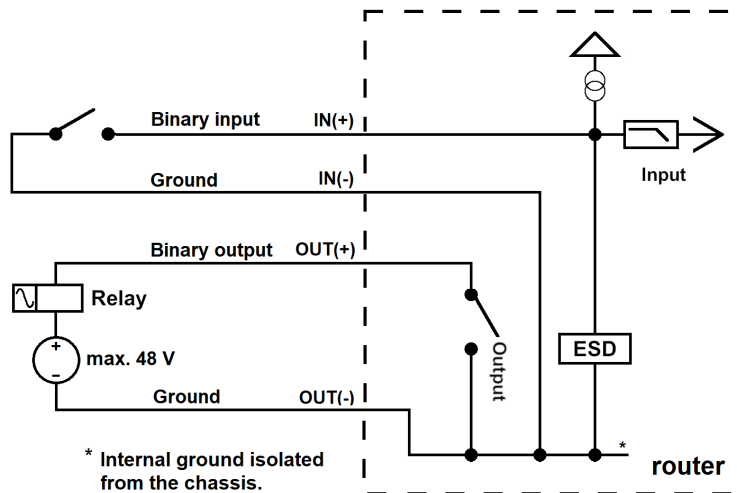

Figure 14: Functional Scheme of the Digital Interface
- i** The thread of the SMA connector for the WiFi antenna is connected to the internal ground, see Figure 14.
The power supply (common pole) is not connected to the metal case of the router nor to the internal ground, see Figure 14.
The I/O user interface is designed for digital input processing and digital output control. For detailed electrical parameters see Chapter 4.6. The functional scheme of connection for the digital input and digital output is in Figure 14.